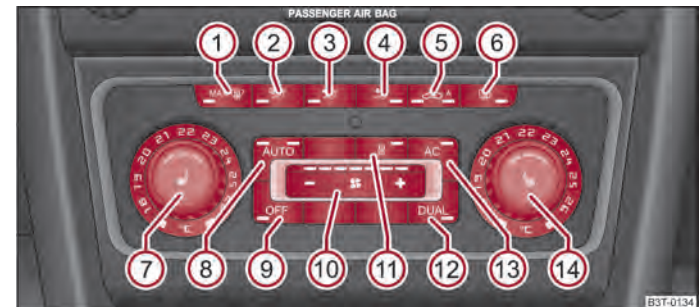

Fig. 111 Climatronic: Control elements
- Press the button **AUTO** ⇒ fig. 111.
- If the windscreen mists up, press the button  ① => fig. 111. After the windscreen has been demisted, press the button .
- Press the button  ⇒ fig. 111.